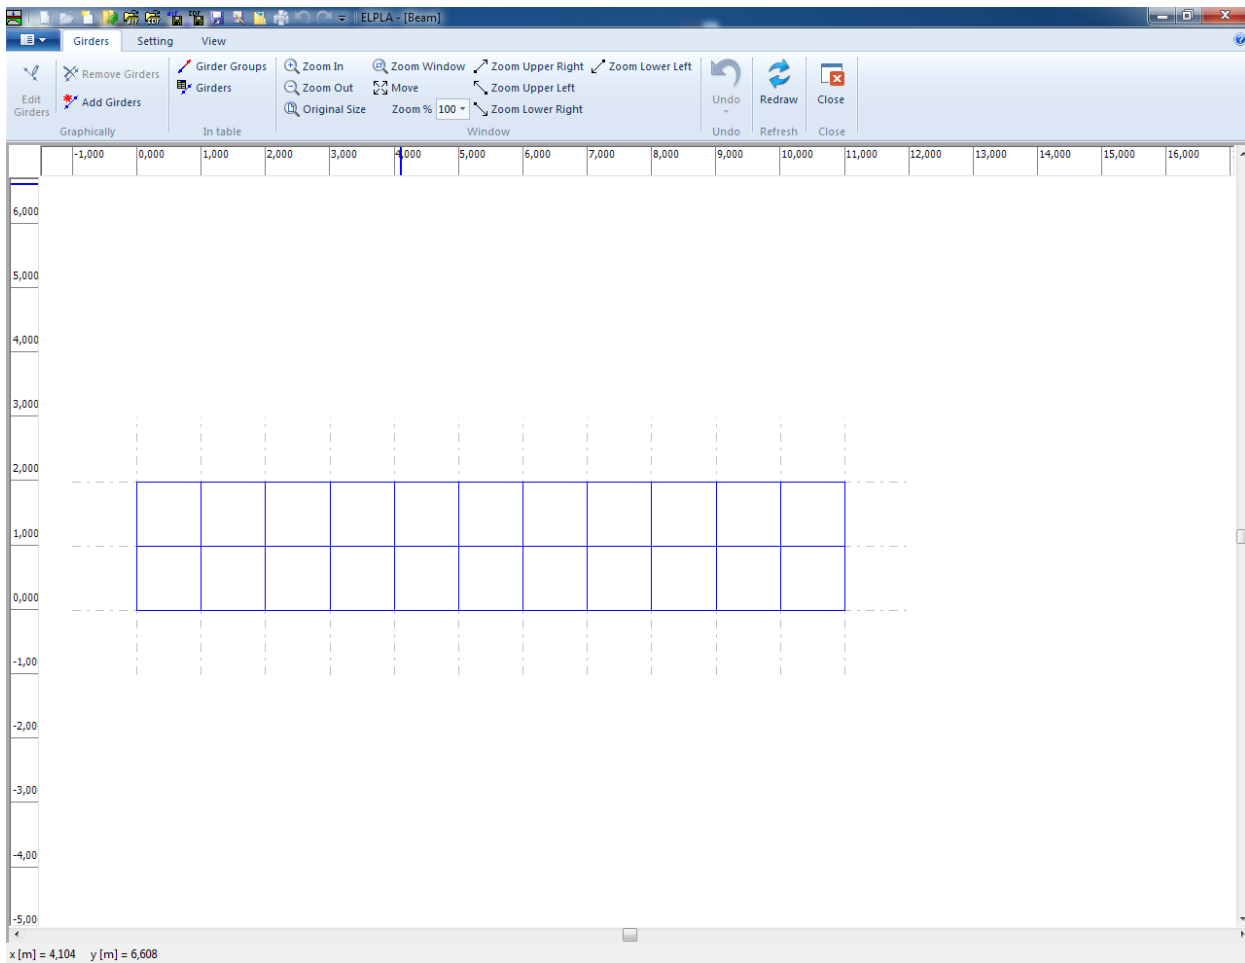

Figure 8.11 "Girders" Window
To define the beam members, choose "Girders" command from "Data" Tab. The following Window in Figure 8.11 appears.
- Choose "Girder Groups" command from "In table" menu in Figure 8.11.